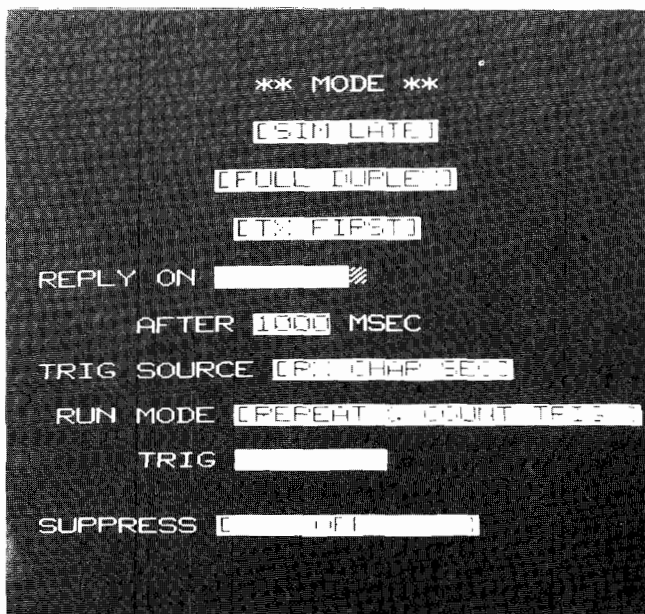

Figure 16-22 1640A Daisy-Chain Mode Selection (Simulation Mode)
- b) Press the MODE key to display the Mode parameters. Configure the Mode as shown in figure 16-22.